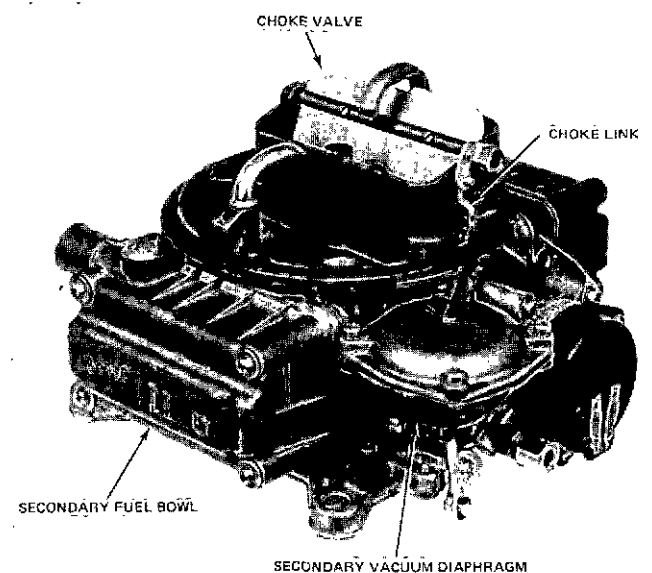

FIG. 20 Secondary Side Model 4160. Internal Fuel Inlet Needle and Seats.
16. Remove choke rod and seal (Figure 20). Unless the choke valve is bent or damaged, DO NOT remove. **NOTE:** The choke valve screws are staked to prevent loosening and care is necessary to avoid breaking or stripping the threads in the choke shaft. If necessary to remove valve, remove staking with a file before loosening screws.